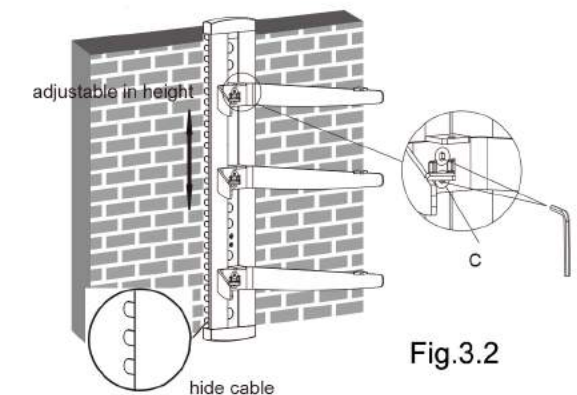

Fig.3.2
- You can adjust the height of the glass holders as needed. Loosen the screws with 3mm Allen key (but not remove), to adjust the glass holders at the desired height and then tighten screws with a 3mm Allen key as shown in fig.3.2.